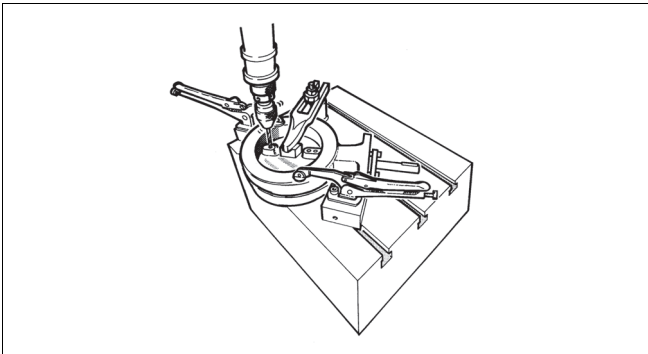

Fig. 14 Drilling the pins
- Remove the clamp ring (2) and seat ring (4) according to section 5.5.
- Set the valve horizontally on a sturdy surface so that the flat side of the disc lays against the surface (see Fig. 14).
- Press the shafts into the disc drillings. Align the pin holes. The shaft (11) position against the disc must be according to Fig. 14.